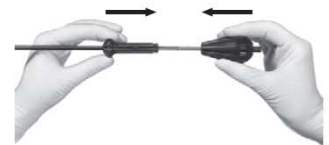

Fig. 5
- Push shaft 4 onto handle 2, see Fig. 5.